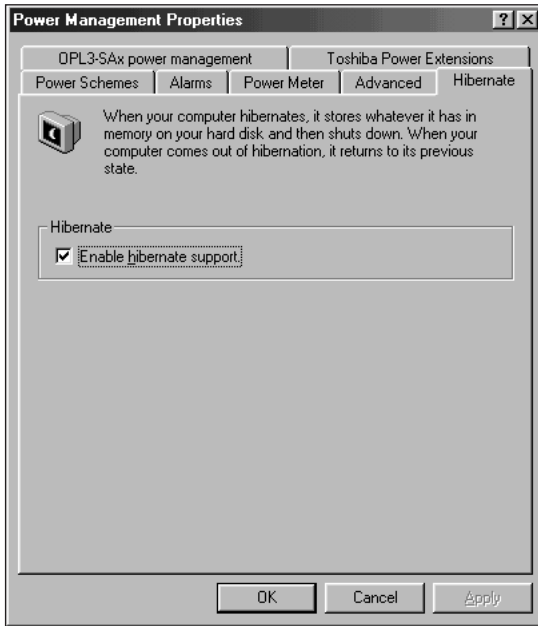

Figure 18-17 Verify that hibernate support is enabled
1. In the Power Management Properties dialog box, click the **Hibernate** tab (see Figure 18-17) and verify that hibernate support is enabled.